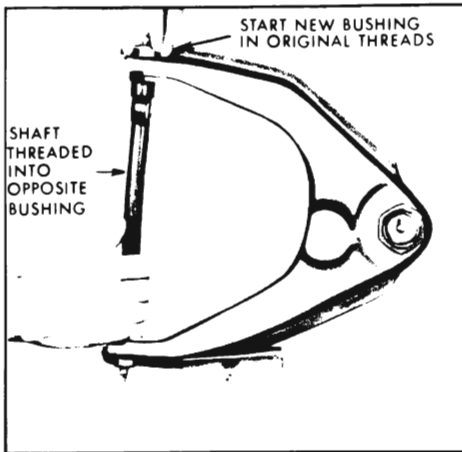

Figure 7-14—Upper Control Arm Bushing Replacement
3. Start second bushing into the upper control arm with shaft threaded into the opposite bushing. See Figure 7-14.